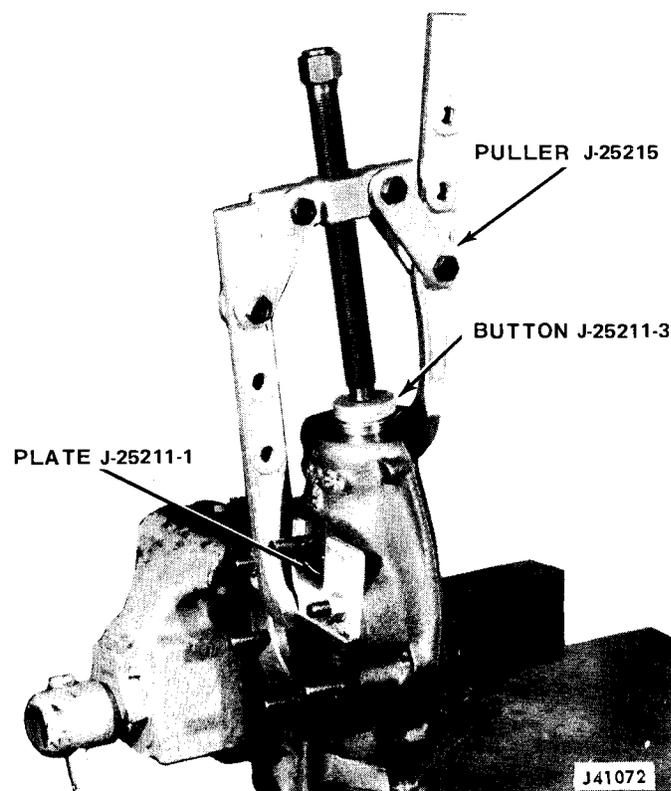

Fig. 10-7 Lower Ball Stud Removal
(1) Remove lower ball stud snap ring.
(2) Clamp knuckle assembly securely in vise with upper ball stud pointing downward.
(3) Attach Plate J-25211-1 to spindle mating surface of knuckle assembly (fig. 10-7). Position Button J-25211-3 on lower joint. Assemble and align Puller J-25215. Tighten puller screw to press lower stud out of knuckle.